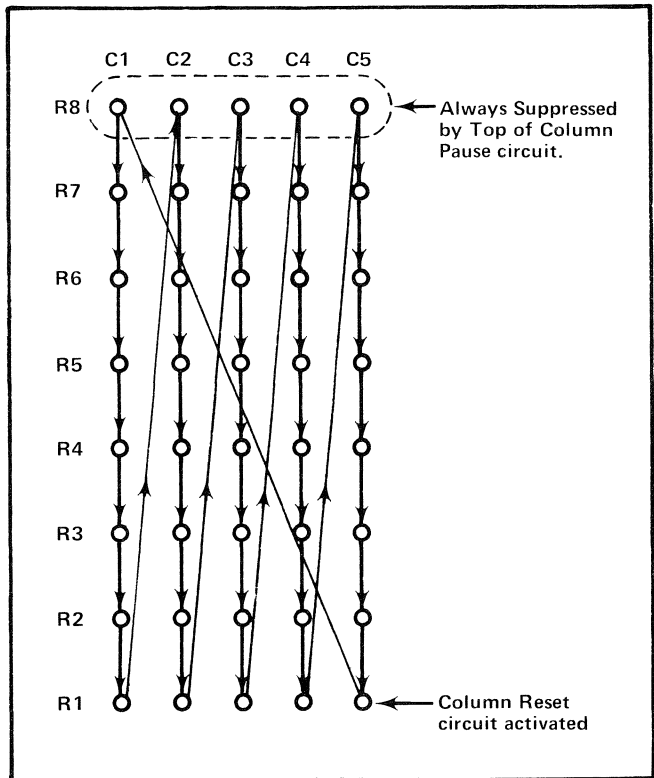

Fig. 6-6. Character Generator Matrix.
**General.** The Character Generator performs its function by cycling through a rectangular dot matrix. See Fig. 6-6. Although the matrix is formed by the coordinates of eight rows and five columns, the eighth (or upper) row is always blanked during character writing.
**Resetting the Character Generator.** When the Row Counter resets to state 0 when counting past Row 1, Column 5 (see Fig. 6-6), the low-going most significant bit of the Row Counter again causes the Top of Column pause circuit to generate the 60  $\mu\text{s}$  pause. It also causes the Column Counter to activate the CARRY signal. (The CARRY signal actually signifies a count of five from the Column Counter.) The CARRY signal inputs to the Top of Column Pause circuit to generate the  $\overline{\text{RESET/SUPPRESS}}$  signal that activates the COLUMN RESET signal from the Column Reset circuit. The COLUMN RESET signal resets the Column Counter back to Column 1.